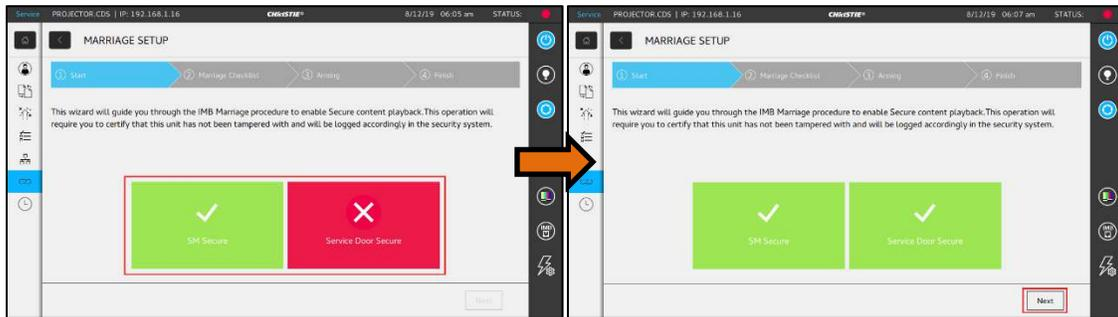

Figure 29: Service Door Secure
5. Complete the steps mentioned in the **Marriage Setup** wizard. Click on the 'Service Door Secure' box. Once it turns Green, click **Next** (as shown in **Figure 29**).